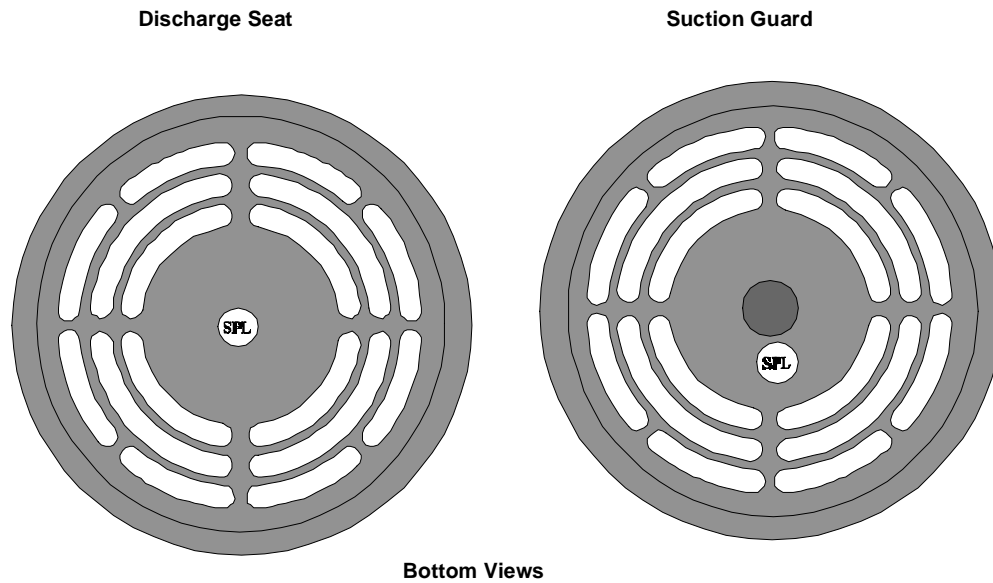

FIGURE 1-9: SPIRALOCK THREADED VALVE ASSEMBLY - MARKED SPL
- b. 12 Point Cap Screws in Valve Assemblies with Spirallock Threads and marked SPL (see Figure 1-9:) are lubricated, both threads and seating surfaces, with a petroleum type lubricant only.